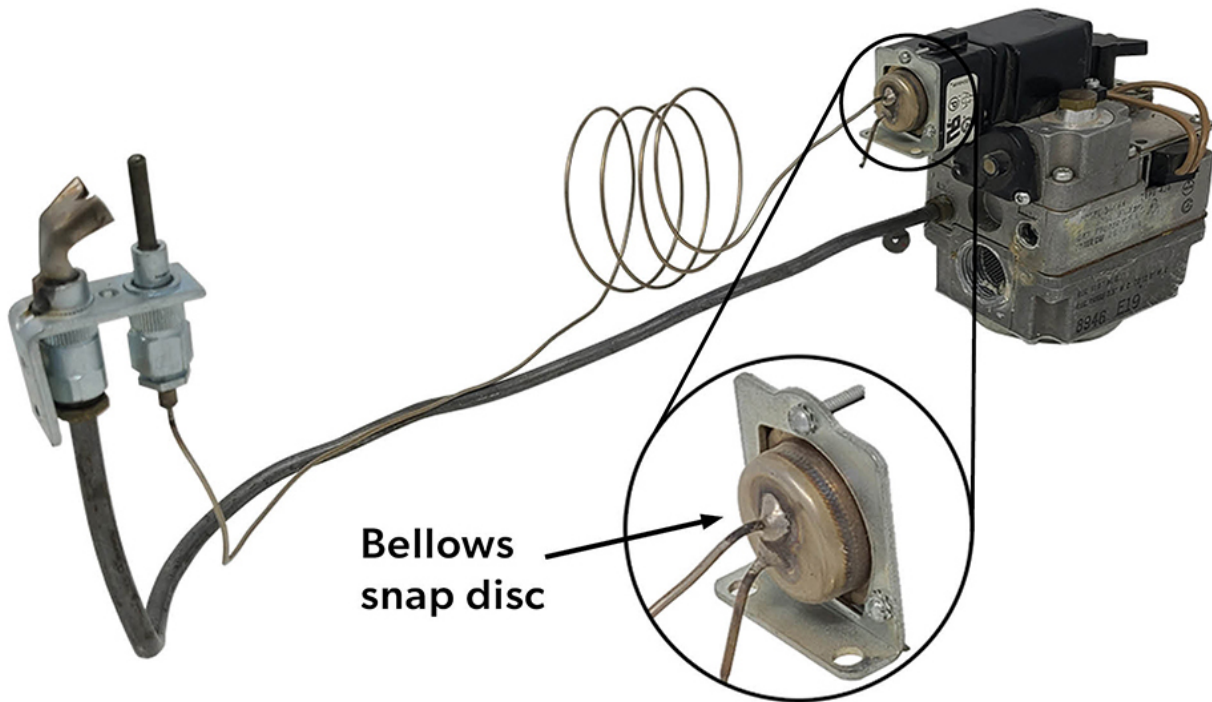

Figure 86. Capillary pilot safety
Capillary temperature sensors are also used to operate electric switch's on gas valve electric circuits. Figure 86 is an example of a hydraulically operated pilot safety switch. At first glance the sensing bulb and capillary tube look very similar to a thermocouple system. Upon closer inspection of the blow-up image of the gas valve you can see that the capillary tube is connected to a bellows. This is a 24 VAC standing pilot gas valve and the bellows holds in a pilot safety switch as long as the pilot is lit.
- Figure 86. “Capillary pilot safety” by Rod Lidstone is licensed under a CC BY-NC-SA licence.